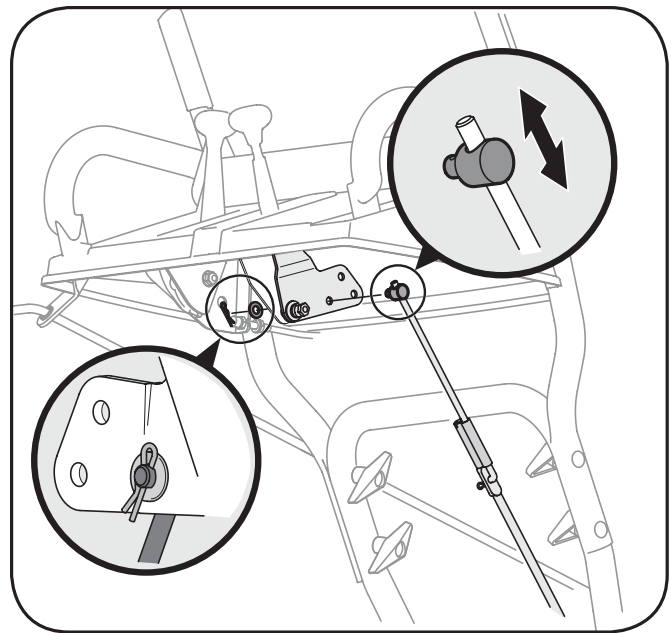

Figure 6-4
If the full range of speeds (forward and reverse) cannot be achieved, refer to Figure 6-4 and adjust the shift rod as follows:
1. Looking underneath the handle panel, note which of the three holes in the shift lever the ferrule is inserted into. Also note the direction of insertion. Then remove the internal cotter pin and flat washer from the ferrule and withdraw the ferrule from the shift lever. See Figure 6-4.
2. Place shift lever in sixth (6) position or fastest forward speed.
4. As necessary, rotate the ferrule up or down the shift rod until the ferrule lines up with the hole from which it was earlier removed. See Figure 6-4.